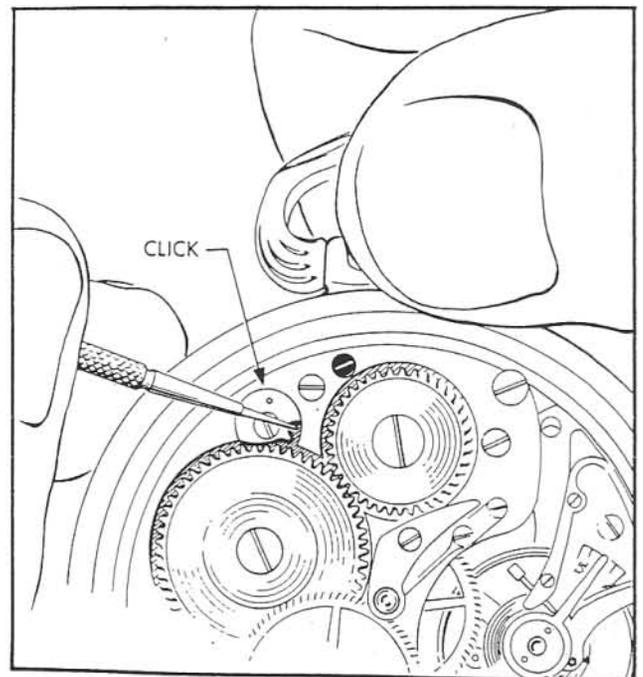

Figure 9—Letting Down Mainspring
(4) LETTING DOWN MAINSPRING. (See figure 9.)—Hold the crown between the thumb and index finger of the right hand. Turn the crown slightly as